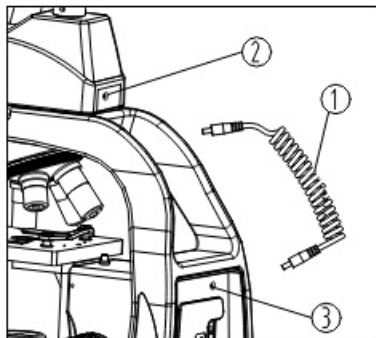
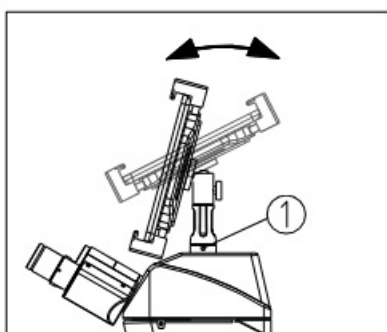

Fig.18
Fig. 19
1. Plug one end of the power cord① into the power socket ② on the observation head and the other end into the power socket③ on the back of the microscope, making sure to make a good connection.
2. Adjust the microscope, use binocular or monocular observation and connect to the microscope hotspot wirelessly via Wi-Fi to activate the professional software to obtain the image once the image is clear (See Fig. 18). Using the tablet holder (optional)
3. Loosen the locking screw④ on the wireless digital observation tube and remove the dust cover②. Be sure to loosen locking screw on each side.
4. Insert the flat plate clamp sleeve into the interface according to the diagram and tighten the locking screw①. Be sure to tighten the locking screw on each side or the tablet may fall.
5. Adjust the tablet angle by rotating the flat plate clamp to get the most comfortable observation position (See Fig. 19).